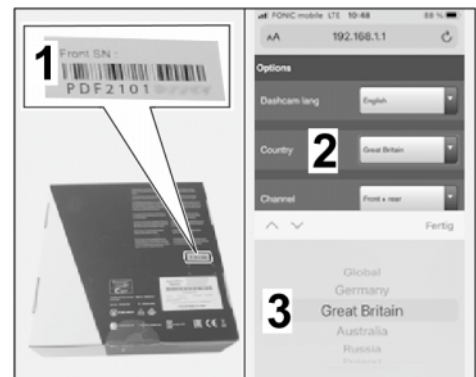

Figure 20
5.3.2 Select country (⇒ *Figure 20*).